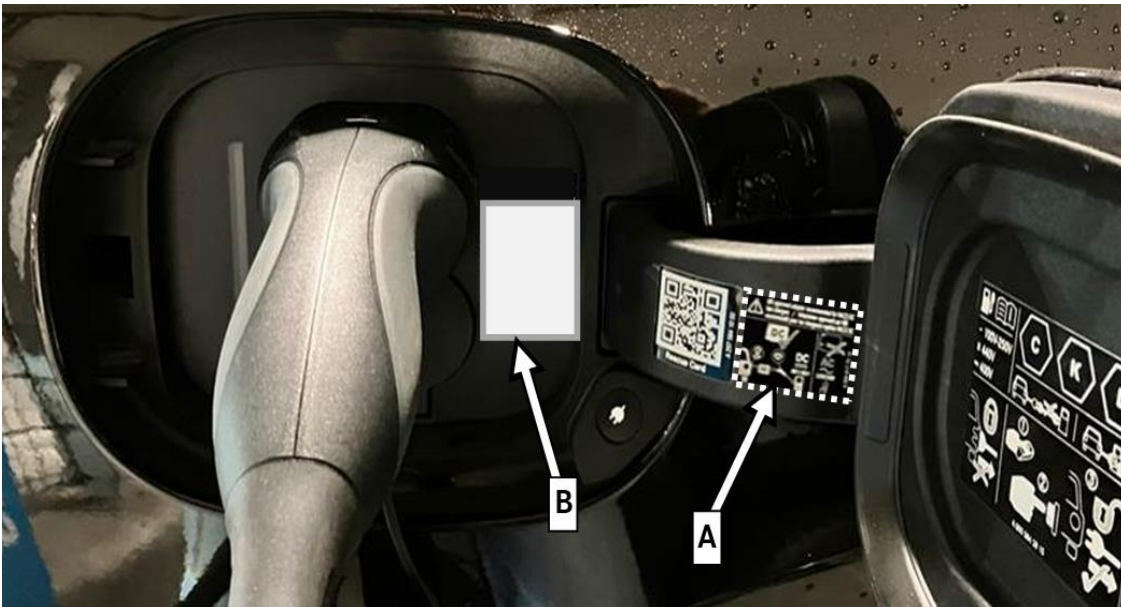

Figure 1 – (A) Primary Information Label position; (B) Alternative Information Label Position
2. Attach the NACS Adapter Information Label (**Figure 1, A**) **horizontally** on the arm of the charging flap, to the right of the “Rescue Card” – QR Code information label.
- i** If the “Rescue Card” – QR Code label is attached centrally and does not provide sufficient space for the NACS Adapter Information Label horizontally (**Figure 1, A**), it is also permissible to attach the NACS Adapter Information Label **vertically** (**Figure 1, B**) in the charging socket area.